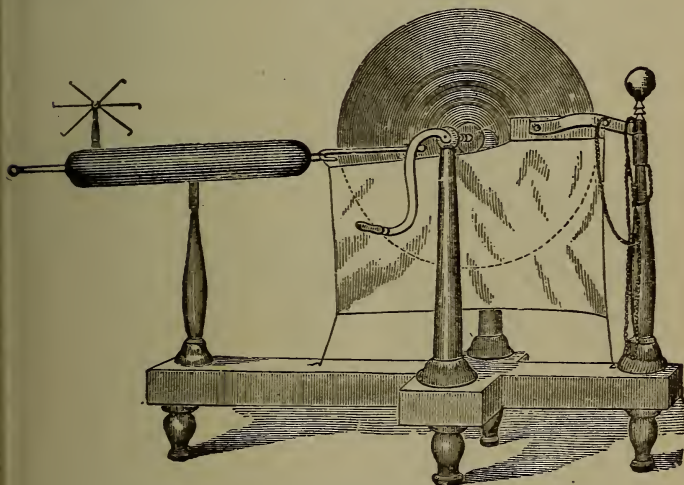

Fig. 19. Simple Electrical Machine.
*Answer.* The simplest machine is a friction machine. A circular glass plate is mounted on an axle and arranged so as to be turned rapidly by belt and pulley. See Fig. 19.